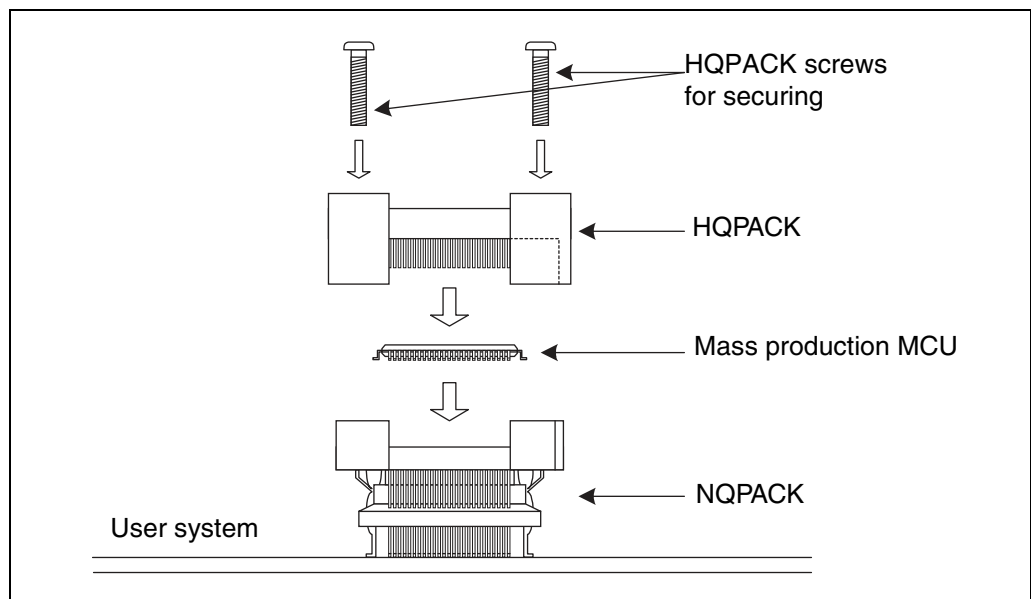

Figure 5 Mounting a mass production MCU
To mount a mass production MCU on the user system, use the supplied HQPACK (see Figure 5).
2. Confirm that the mass production MCU is correctly mounted on the NQPACK. Next, insert the HQPACK into a NQPACK. The pin of HQPACK is thin and easy to bent. Insert NQPACK after confirm that the pin of HQPACK is not bent (see Figure 5).